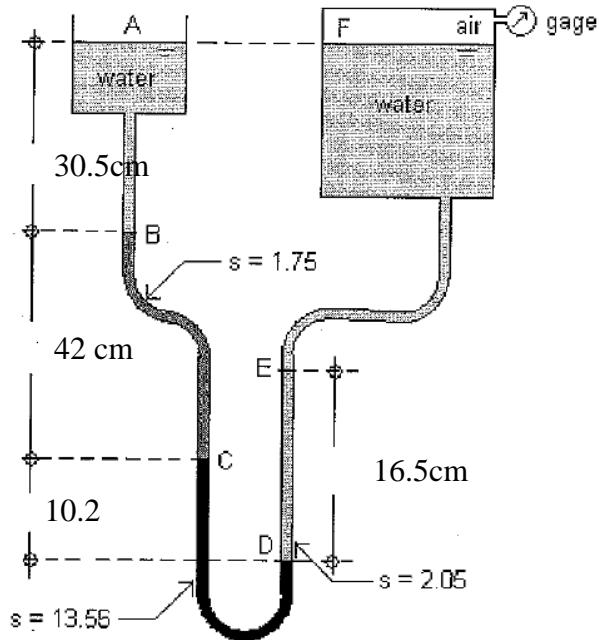

Figure 3: Open Tank / Rajah 3: Tangki Terbuka
- [c] The Figure 3 below shows an open tank (A) connected to a pressurized tank (F) by the tube through points B, C, D, and E. The figure shows the lengths and specific gravities of different manometric fluids used in the tube. Calculate the pressure measured by the gage at F, P_F in kPa, if the levels of tanks A and F are the same. Use $\gamma_{\text{water}} = 9810 \text{ N/m}^3$ for the specific weight of water.